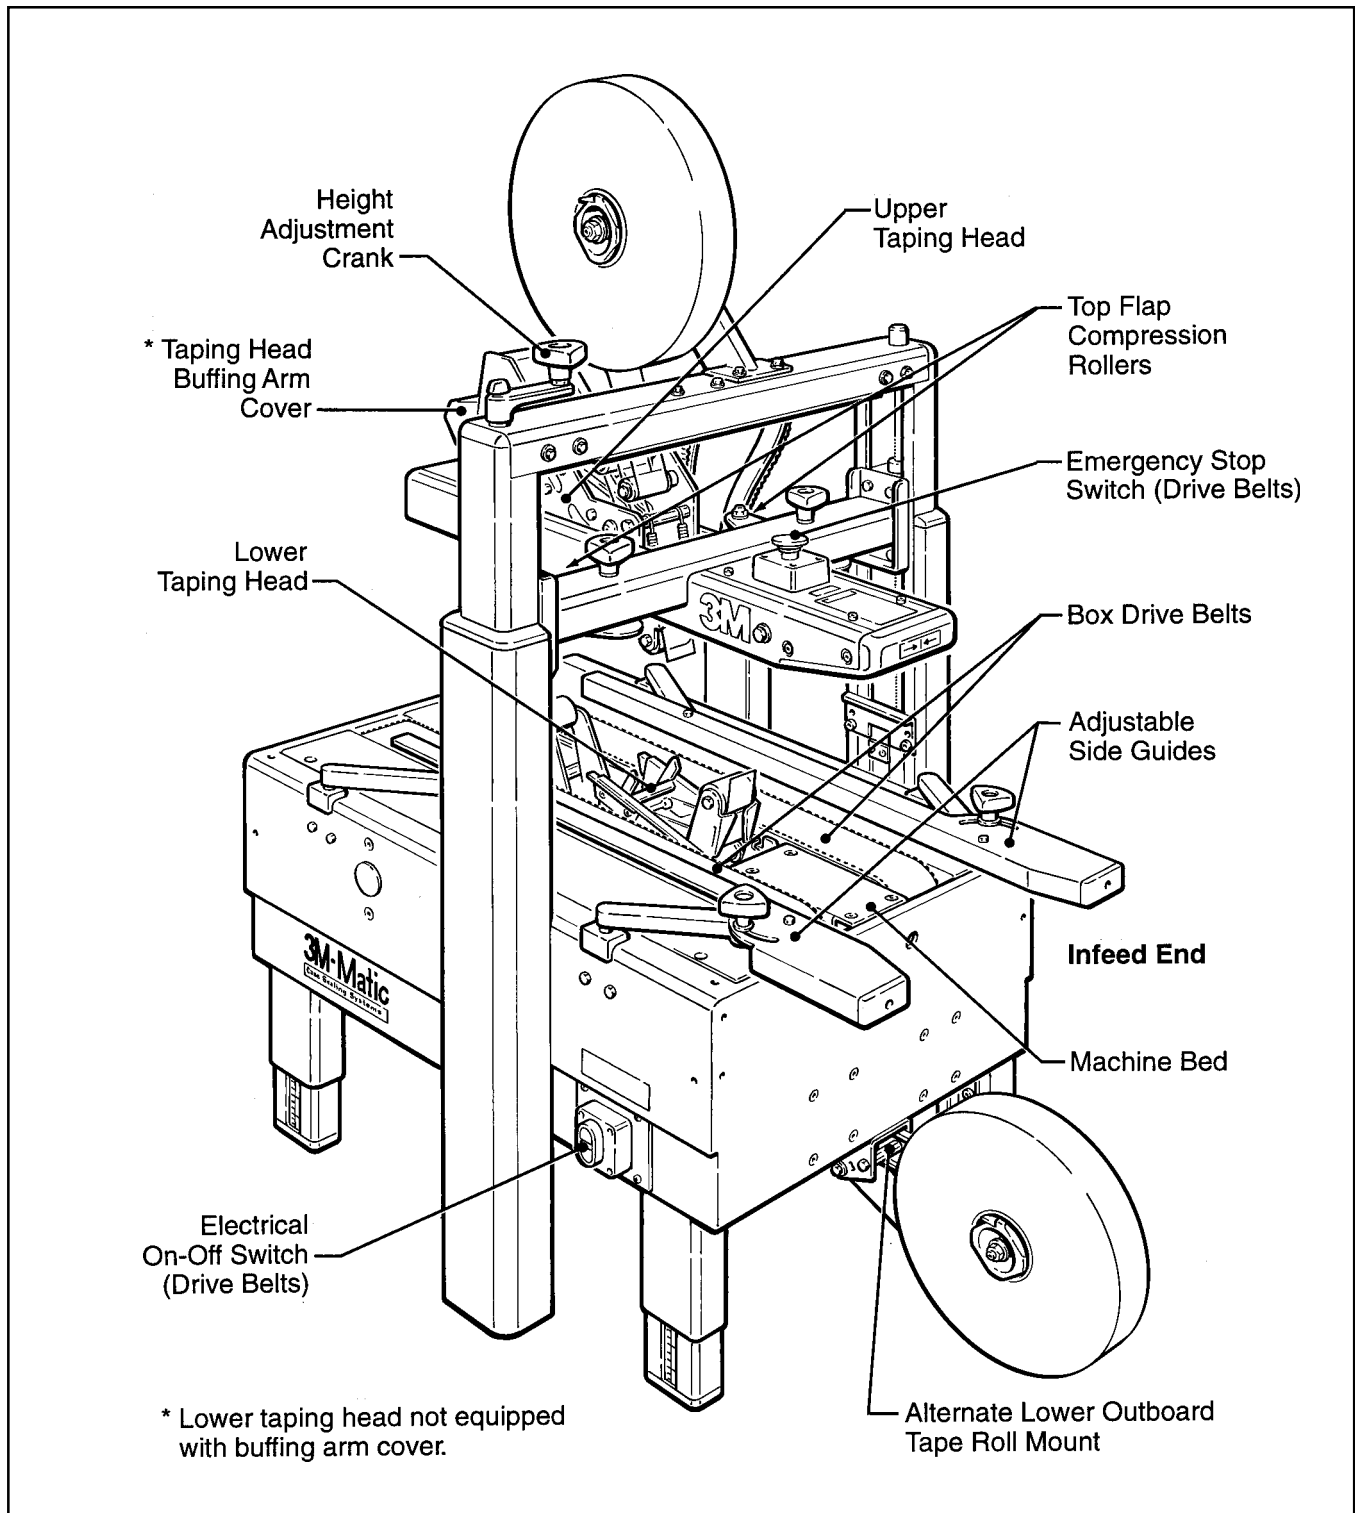

Figure 3-1 – 200a Case Sealer Components (Left Front View)
The following instructions are presented in **the order recommended** for setting up and installing the case sealer, as well as **for learning the operating functions and adjustments**. Following them step by step will result in your thorough understanding of the machine and an installation in your production line that best utilizes the many features built into the case sealer. Refer to Figure 3-1 to identify the various components of the case sealer.
Refer to Figure 3-1 below to acquaint yourself with the various components and controls of the case sealer. Also see Figures 3-1 and 3-2 in Section II for taping head components.
8. Both the upper and lower taping heads utilize extremely sharp knives. The knives are located under the orange knife guard which has the "WARNING – SHARP KNIFE" label. Before loading tape, refer to Figures 3-1 and 3-2 in Section II to identify the knife location. Keep hands out of these areas except as necessary to service the taping heads.